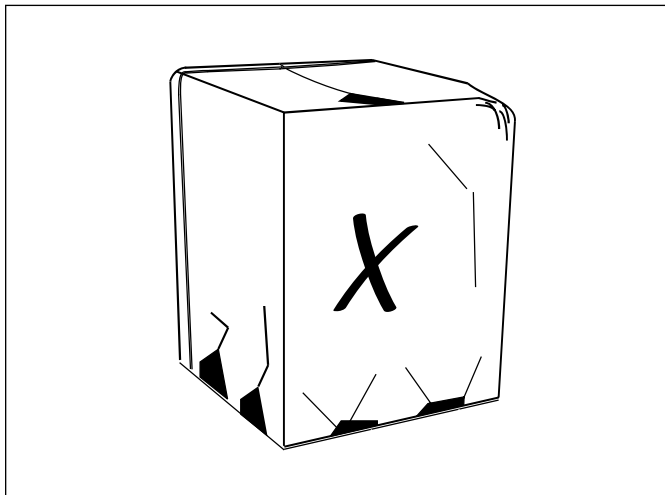

Figure 10
- Check for damage and report promptly to the carrier any damage found to the unit (Fig. 10).